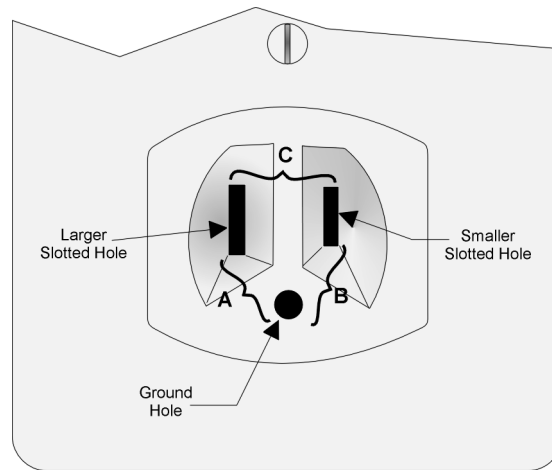

Figure 3-6 Outlet Voltage Measurement Points
1. Measure the AC voltage between the center ground post and each side of the outlet (see A & B in Figure 3-6). You should read approximately 120 VAC at measurement point B and nominal VAC at measurement point A.
2. Measure the voltage between the two slotted holes. It should be equal to the voltage reading at measurement point B. (See Figure 3-6.)